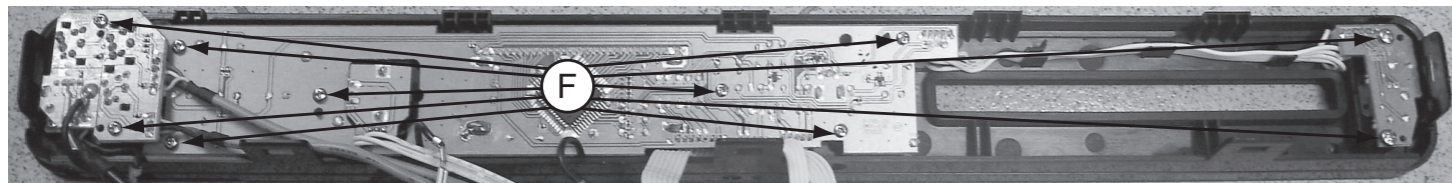

Figure 9
- 1) Loosen 10 screws “F” on the top of VFD+JACK+VOL+STANDBY Board as shown in figure 9.